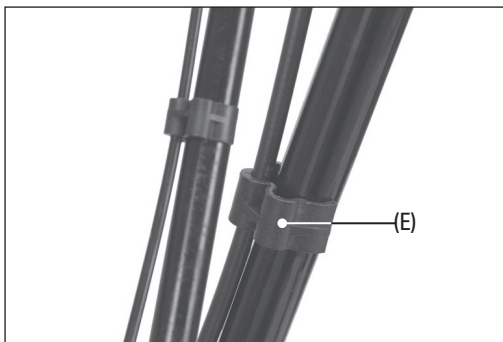

Fig. 7
3. Use the handlebar cable clips (E) to secure the cables against the handlebars (Fig. 7).